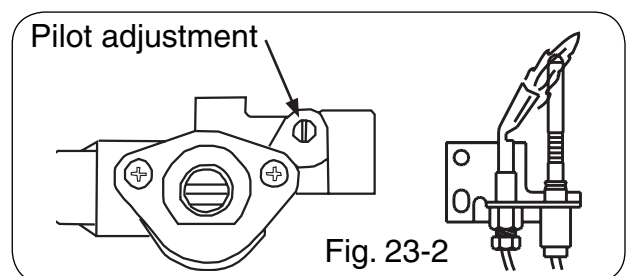

Fig. 23-2
1. Verify that the pilot is lit and burning properly (Fig. 23-2), then turn the burner control knob counterclockwise ↺ so **ON** is at the top. This opens the valve and allows gas to flow to the main burner once the ON/OFF switch is turned **ON**.
With the pilot burner lit and the control knob in the **PILOT** position (Fig. 23-2), use a narrow screwdriver and turn the pilot adjustment screw (located in the valve body) slowly clockwise ↻ to reduce the flame, or counterclockwise ↺ to increase the flame.